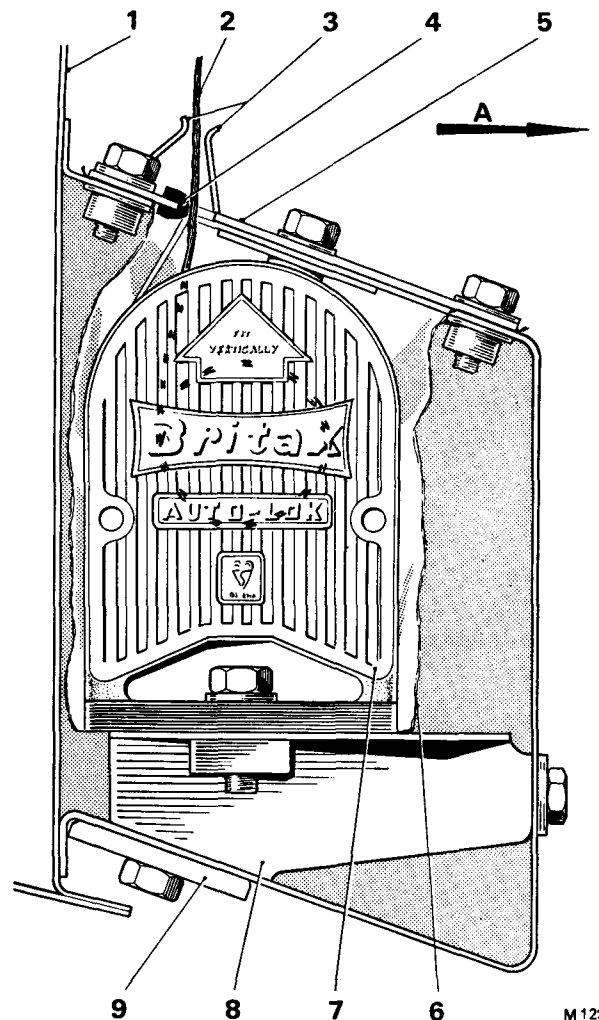
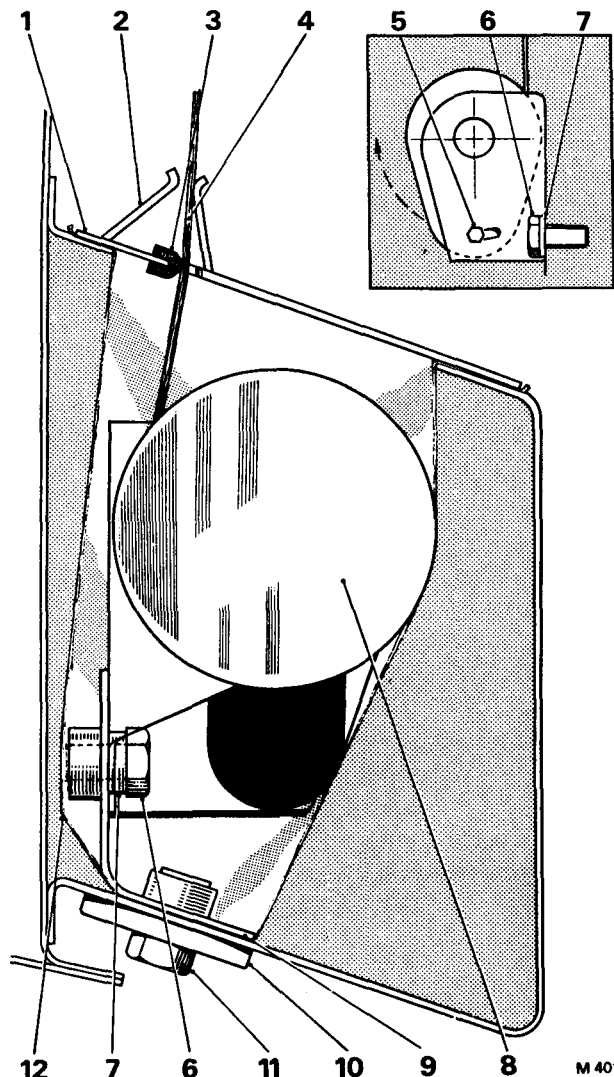
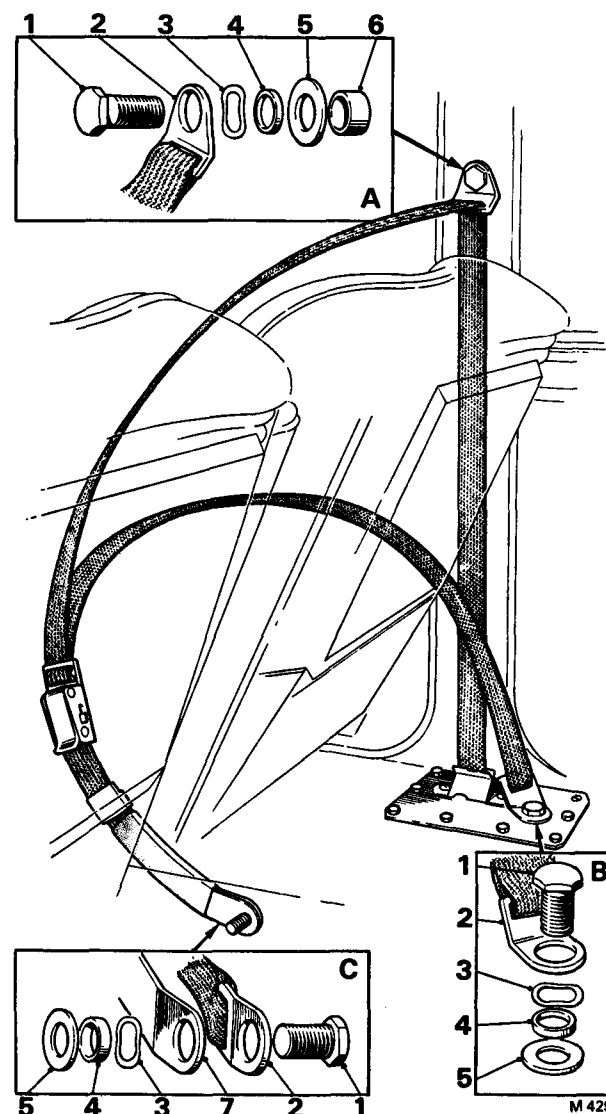

FIG. S96 INSTALLATION OF THE EARLIER BRITAX AUTO-LOK REEL MECHANISM IN THE SILL (4-Door Saloon and Long Wheelbase Non-division Cars)
FIG. S97 INSTALLATION OF THE LATER BRITAX AUTOLOK III REEL MECHANISM IN THE SILL (4-Door Saloon and Long Wheelbase Non-division Cars)
FIG. S98 FRONT SEAT BELT MOUNTINGS—EARLY BRITAX AUTOMATIC SEAT BELT (4-Door Saloon and Long Wheelbase Non-division Cars)
Note that on cars fitted with the Autolok III seat belt this assembly is secured by two $\frac{1}{2}$ in. A/F setscrews (see Fig. S97), while on cars fitted with the earlier Auto-lok seat belt the assembly is secured by two $\frac{1}{2}$ in. A/F setscrews and two $\frac{7}{16}$ in. A/F setscrews (see Fig. S96).
(a) **Cars fitted with the earlier type Auto-lok seat belt** (see Fig. S96). Remove the two $\frac{1}{2}$ in. A/F setscrews securing the reel unit and the polythene bag to the support bracket then lift the reel unit out of the polythene bag.
(b) **Cars fitted with the Autolok III seat belt** (see Fig. S97). First remove the reel unit and its support bracket from the polythene bag then remove the small screw situated on the side of the reel casing. Rotate the drum of the reel unit, in its casing, until access can be gained to the bolt securing the reel unit to its support bracket; remove this bolt together with the distance piece and separate the reel unit from the mounting bracket. Rotate the drum of the reel unit to its original position in its casing then fit the small screw.
- (a) Cars fitted with the earlier type Auto-lok seat belt (see Fig. S98). Ensure that the two $\frac{1}{2}$ in. A/F setscrews securing the reel unit to the support bracket pass through the polythene bag (see Fig. S96); tighten the setscrews to between 16 lb. ft. and 18 lb. ft. (2,212 kgm. and 2,488 kgm.).
Ensure also that the small screw on the side of the reel casing is positioned at the end of the slot furthest away from the back face of the casing as shown in Figure S97; tighten this screw to between 24 lb. in. and 48 lb. in. (0,276 kgm. and 0,553 kgm.).
8. When fitting the anchorage bolts refer to Figures S98, S99 and S100 which show the seat belts in position and the order of assembly of the bolts, distance piece and washers (when fitted) in the belt mounting brackets.
10. When fitting the waved washer to any of the anchorage points (see Figs. S98, S99 and S100) ensure that the washer fits over the distance piece and is not trapped between the face of the distance piece and the bracket (or washer).
Early 4-Door Saloon and Long Wheelbase non-division cars were not provided with the cut-out in the sill to accommodate the reel unit of the Britax Automatic front seat belt. To enable the Britax Automatic seat belt shown in Figure S98 to be fitted to these early cars the sill and channel can be modified as follows. The seat belts together with the necessary brackets, etc., are supplied in kit form (see *Parts List publication T.S.D. 2201*) and can be obtained from Rolls-Royce Motors Limited, Crewe.
13. The Britax automatic front seat belt assembly shown in Figure S98 can now be fitted (*see Britax automatic front seat belt - To fit, in this Section*).